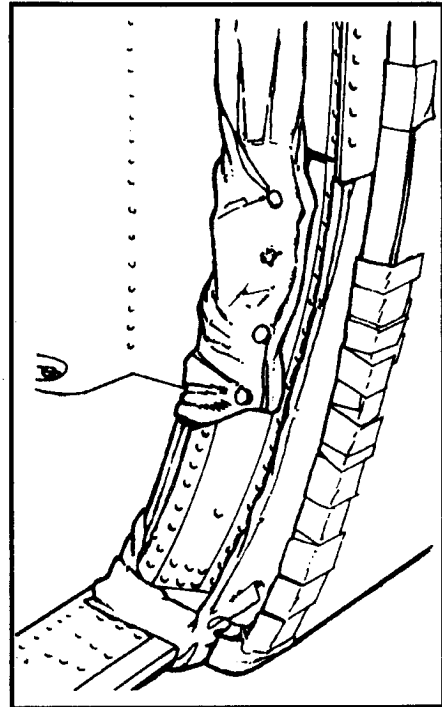

Figure 17-8. UH-60A door edge padded and taped.
(5) Tape the weather stripping on cargo doors below the door catch (Figure 17-8).